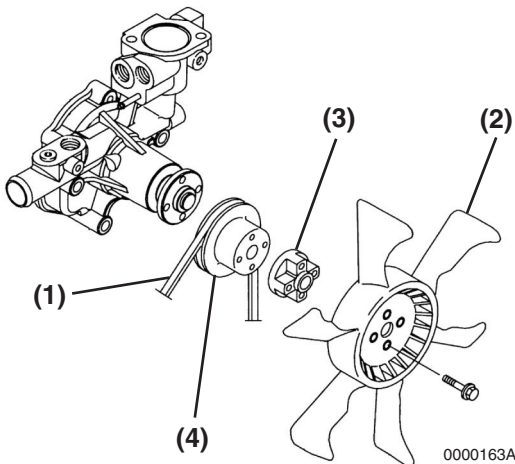

Figure 7-31
13. Reinstall the coolant pump V-pulley (**Figure 7-31, (4)**), spacer (**Figure 7-31, (3)**) (if equipped) and engine coolant fan (**Figure 7-31, (2)**).
14. Reinstall the cooling fan V-belt (**Figure 7-31, (1)**). Adjust it as described in *Check and Adjust Cooling Fan V-Belt on page 5-21*.